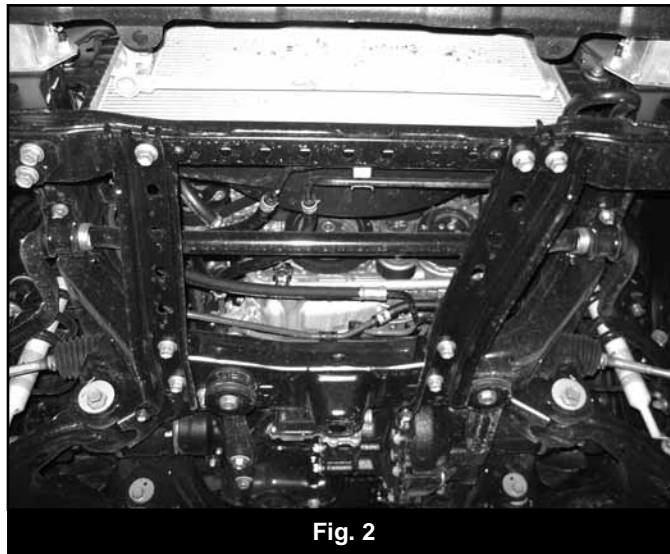

Fig. 2
5. Remove the skid plate mounting bracket rails; keep all hardware (7 bolts) (Fig 2).